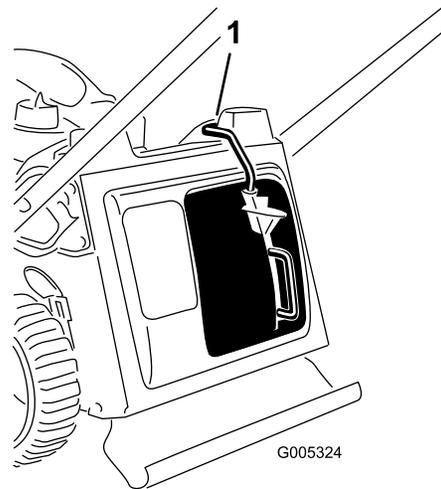

Figure 24
**Important:** The mower has a safety switch that prevents you from starting the mower unless you first install the mulch plug securely on the mower (Figure 24).